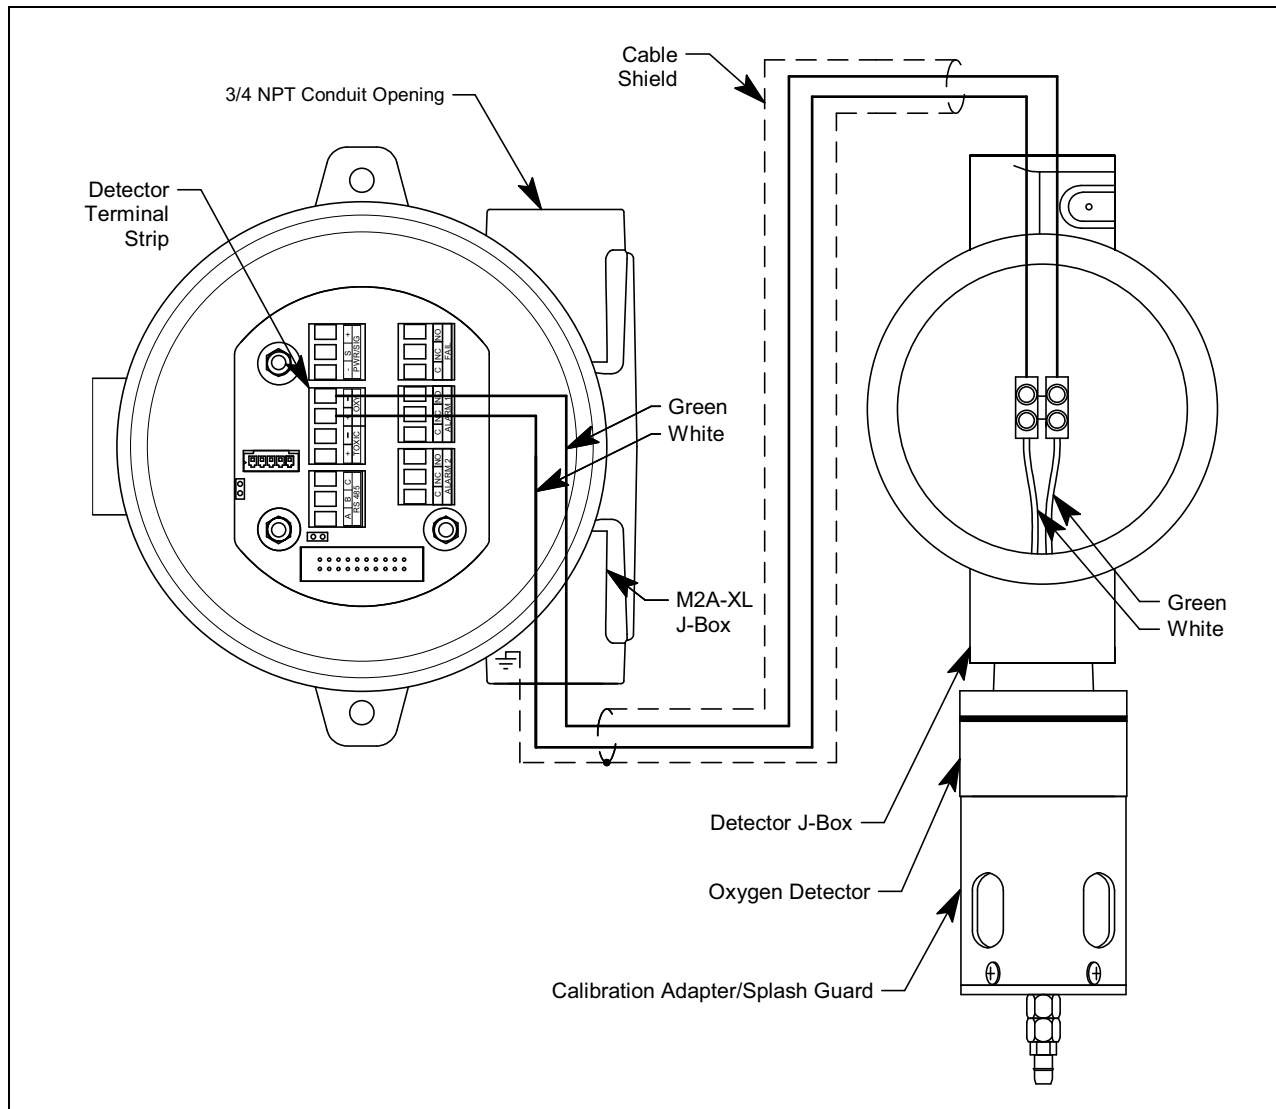

Figure 8: Wiring the Detector to the M2A
13. Pull out the detector terminal strip and connect the two wires to the terminal strip as follows (see Figure 8).